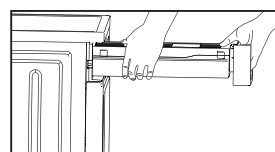

Fig9
1. Hold and pull out the water container with two hands.(Fig9)